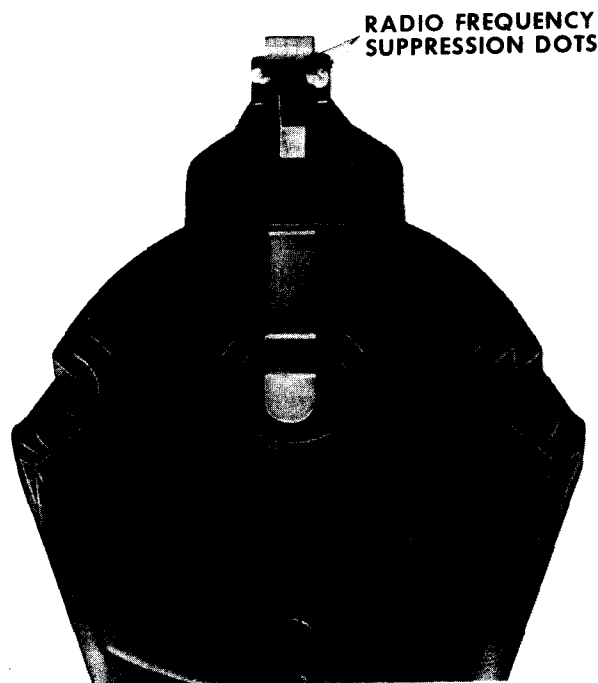

Figure 26—HEI Rotor
2. Remove rotor (figure 26) from distributor shaft by removing two screws.